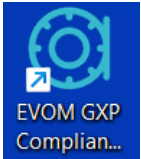

Fig. 15—EVOM GxP Client icon located on the laptop's desktop.
3. On the laptop, double click on the EVOM™ GxP Client icon located on the desktop to start the application (Fig. 15). The EVOM™ GxP Client login window displays (Fig. 16).